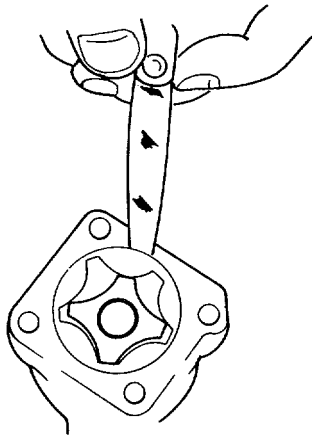

Figure 5-47. Outer Rotor Clearance.
- (1) Inspect for signs of wear, cracks, pitting, or other damage.
(2) Install the drive shaft with inner rotor, then install the outer (driven) rotor ensuring that face with chamfered edge enters the pump body first (see Figure 5-47). Perform the three following dimensional checks.
- (b) Check the clearance between the outer rotor and the pump body (see Figure 5-47).